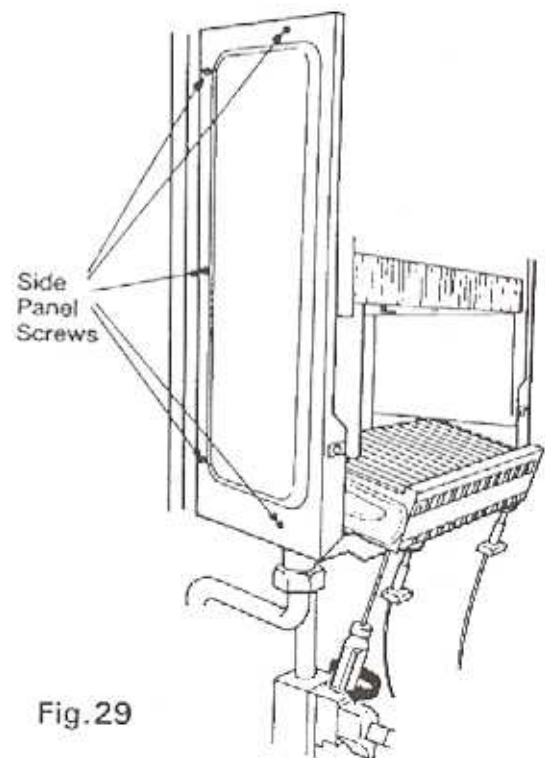

Fig.29
Note: If difficulty is found in relocating the burner securing screws, easy access can be gained by removing the two side panels (Fig.29).
- 8.8.5 Remove both side panels, 5 screws each (Fig.29)